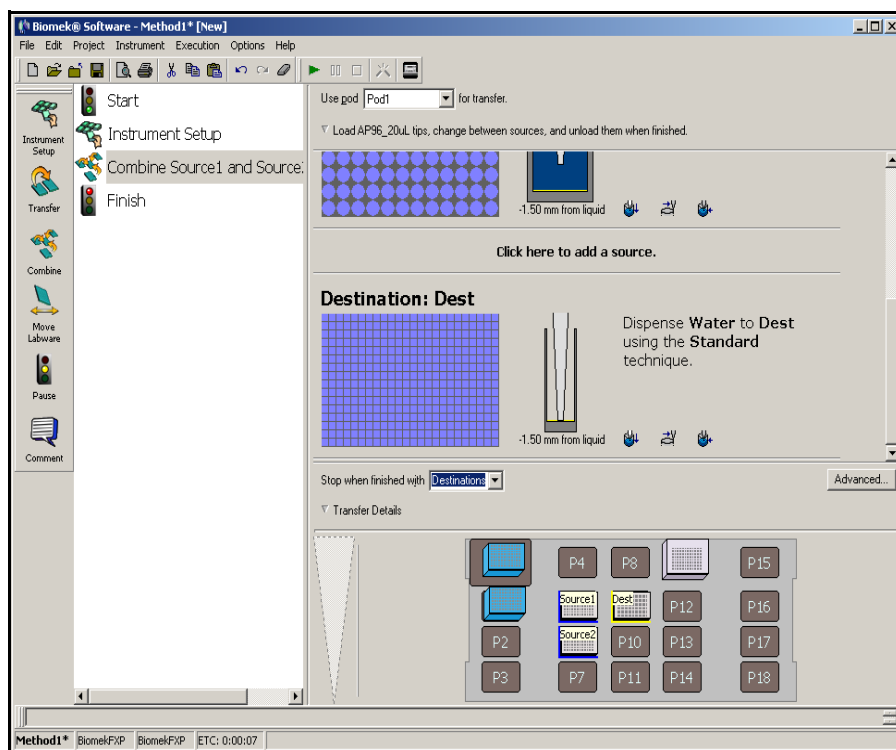

Figure 2-4. Stop when finished with Destinations chosen
- From **Stop when finished with**, choose **Destinations** (Figure 2-4).